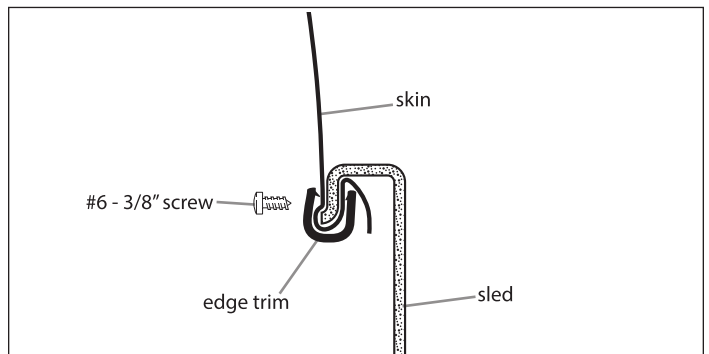

FIGURE 6
13. Secure the edge trim in place using the (12) #6 x 3/8" sheet metal screws provided. A cordless drill and Phillips head bit is recommended for this step, but is not necessary. **SEE FIGURE 6**